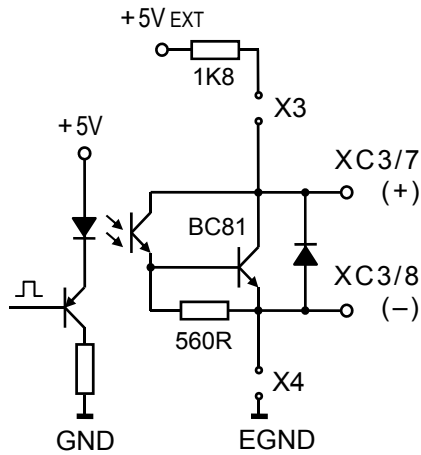

Fig. 30
- X5, X6 caloric pulse output internal power supply jumpers (Fig. 30)
**b) Flow pulse output 2** (figure 30) provides remote access to volumetric pulses or reverse flow indication for magmeter that operates in bidirectional flow metering mode as described in paragraph 8.4 c. It is disabled in billing flow meters.